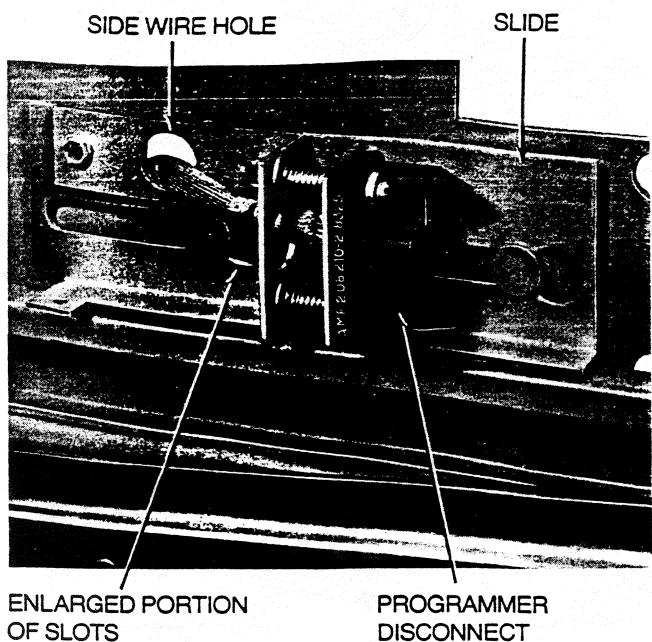

Figure 9
1. Orient programmer disconnect as shown in Figure 9 and assemble with wires toward rear as in Figure 9. Place enlarged portions of slots in slide over the two captive shoulder studs.